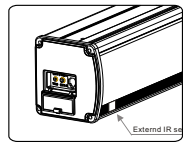

Figure 43
- 1.When nothing blocks the sight of IR window, you can use the controller to control the screen (Figure43).